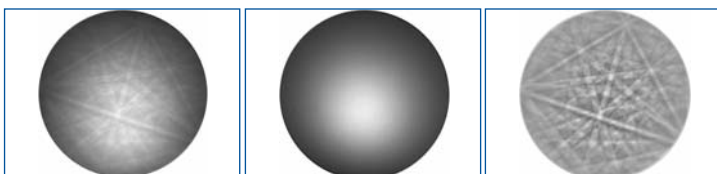

Figure 1 – EBSD pattern from ferrite. Left: EBSD pattern as detected, middle: background reference image, right: pattern after background subtraction.
Figure 1 - The sequence of collecting a live phase map is shown. First, an image is collected ('a') and then the map starts. The phase map shown in 'b' is after only a few frames and the maps which follow are in sequence. Note that the images become less noisy over time and some areas change from one phase to another - the blue mottled area in the upper part of 'b' gradually changes to a reddish brown phase. Each phase is named or defined by the dominant elements present.
Each filter is made of a different material and is capable of "cleaning" up a different energy region (keV) of the XRF spectrum. Having all six filters available on an automated wheel will allow the user to find a suitable filter for any energy region. Filter selection is based on the attenuation characteristics of the material itself, along with the energy region of interest. As mentioned, selecting the correct filter can greatly reduce spectral background and improve the peak-to-background ratios for the elements/region of interest. As shown in Figure 1, the lower limits of detection for As(K) are greatly improved when comparing the results from an open configuration (red spectrum) versus an Rh filter (blue spectrum).
Figure 1 – Detection limits for As(K) in this glass standard improve by more than a factor of two when using the Rh filter (blue spectrum) versus using no filter (red spectrum).